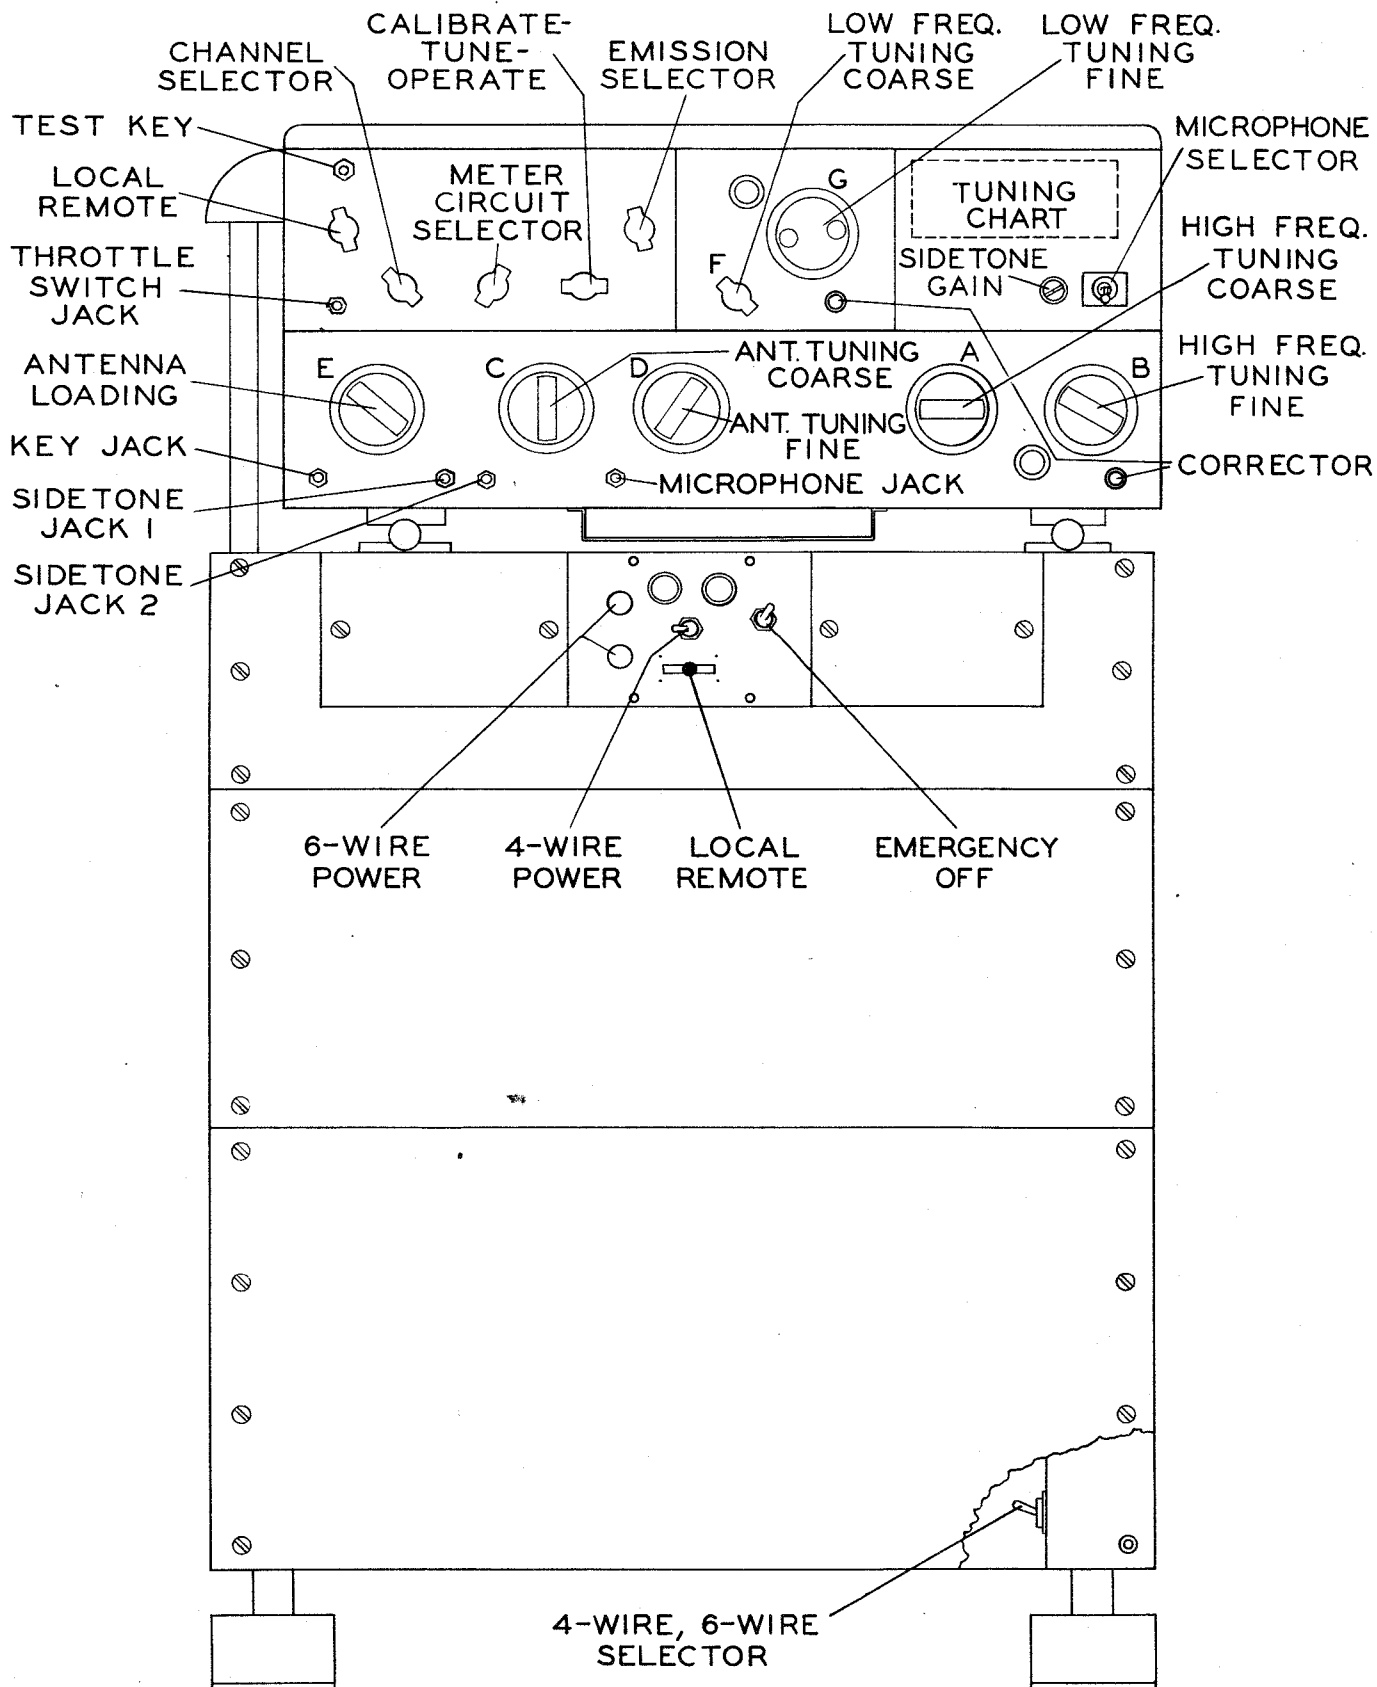

Figure 3-1 Navy Model TCZ-2 Operating Controls
- (1) Open carrier control device (key, push button, etc.)
- (2) Press NAVY CONTROL OFF button.
- (3) The equipment may also be stopped by pressing OFF button on the front panel of the power unit.
5. REMOTE CONTROL - NAVY 4 WIRE. (Refer to Figure 3-1)
- (1) Open carrier control device (Key, Push-to-Talk button, etc.)
- (2) Press the OFF push button.
3. LOCAL OPERATION - 4 WIRE. (Refer to Figure 3-1)
- (1) Open carrier control device (Key, push button, etc.)
- (2) Operate the 4 WIRE POWER switch to OFF.
4. REMOTE CONTROL - NAVY 6 WIRE. (Refer to Figure 3-1)
2. LOCAL OPERATION - 6 WIRE. (Refer to Figure 3-1)